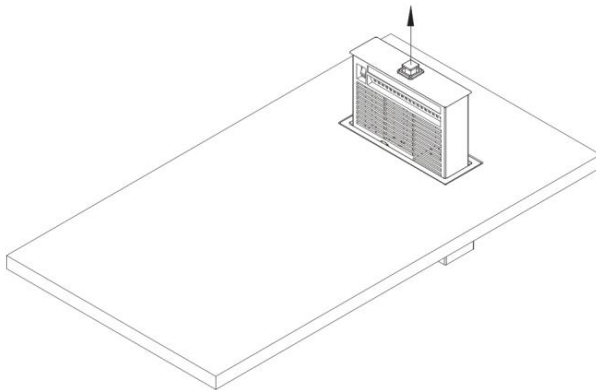

Fig. 10 – Inlet Vent in Active Position
5.10 Grab the Pop-Up Knob and pull it straight up to pull the Inlet Vent from the Housing component. Pull the Inlet Vent up as far as it goes, such that it is in the active position as shown in Fig. 10.